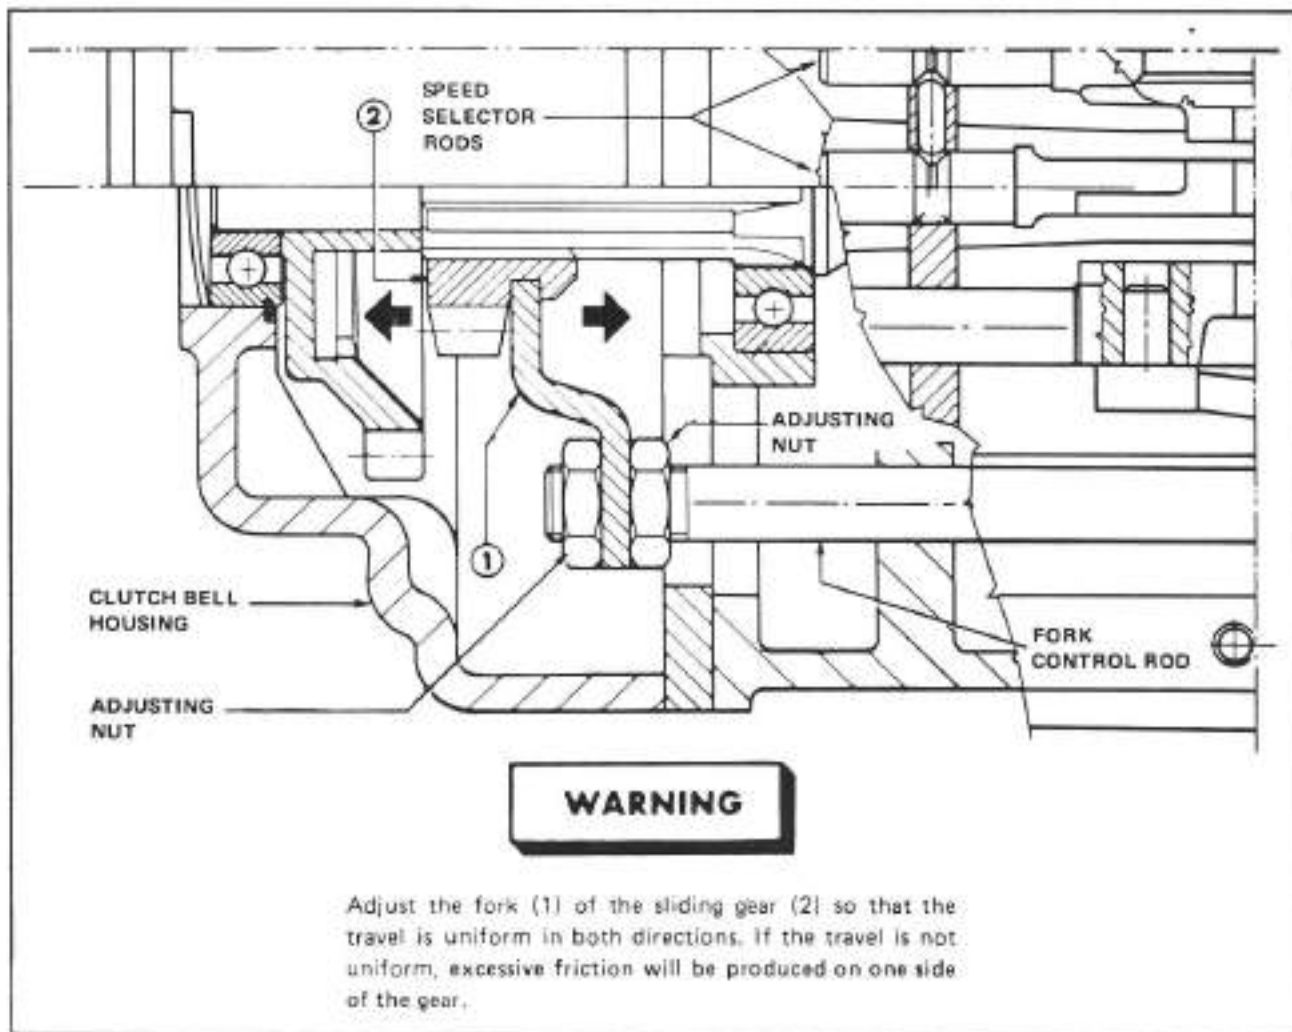

Fig. 3-39a. Adjustment of the control forks of the sliding gear
- Adjust the control forks of the sliding gear as indicated in Figure 3-39a.